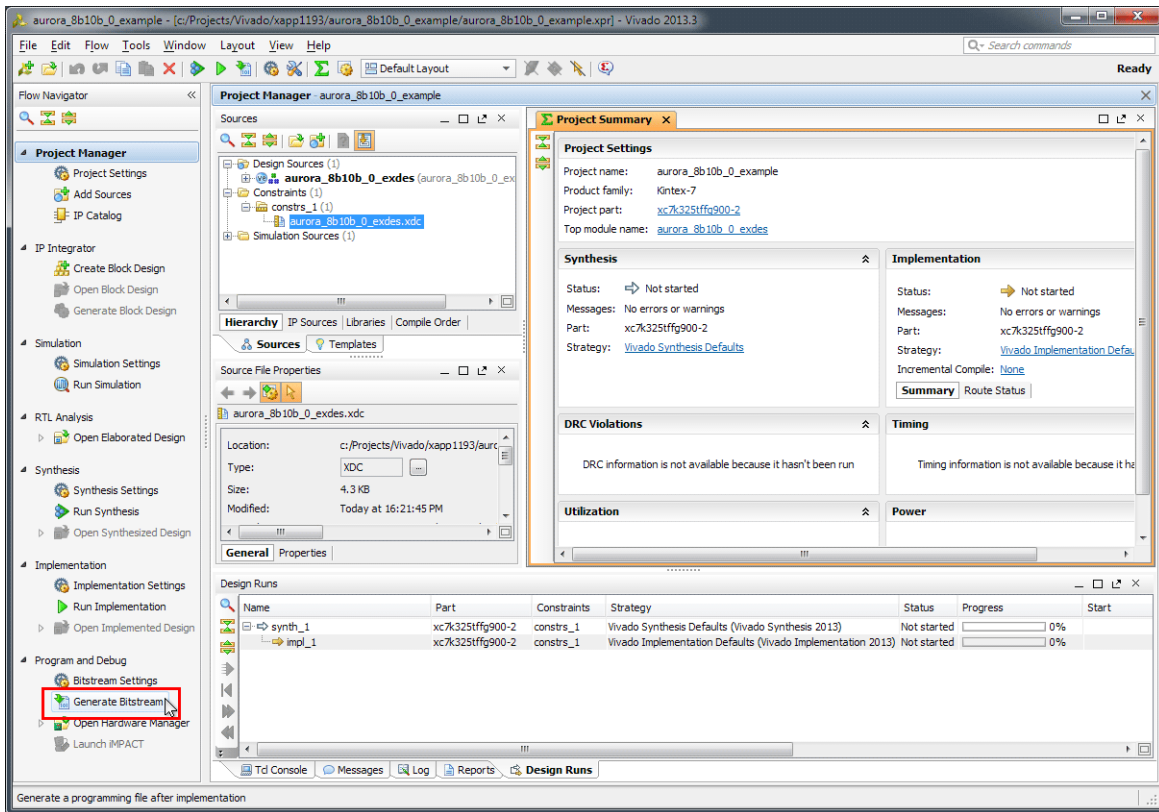

Figure 8: Generate Bitstream
- Select **Generate Bitstream** from the Flow Navigator panel (Figure 8).